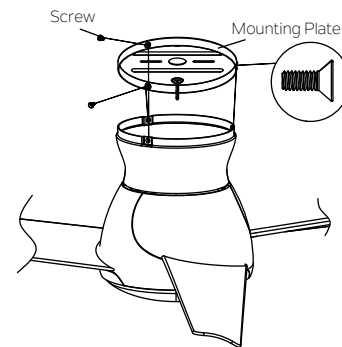

Fig. 15
Step 1. Lift up the motor assembly onto the mounting plate, align the three (3) holes on the motor assembly and mounting plate, securely tighten them with three (3) screws found in mounting plate cover hardware bag.(Fig. 15)